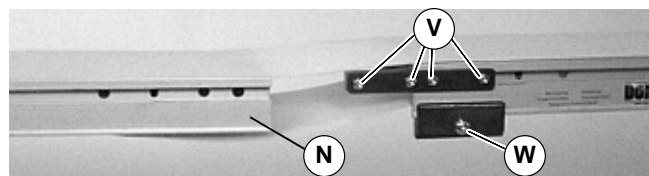

Figure 6
5. Place conveyor frame (N of Figure 6) into belt loop.